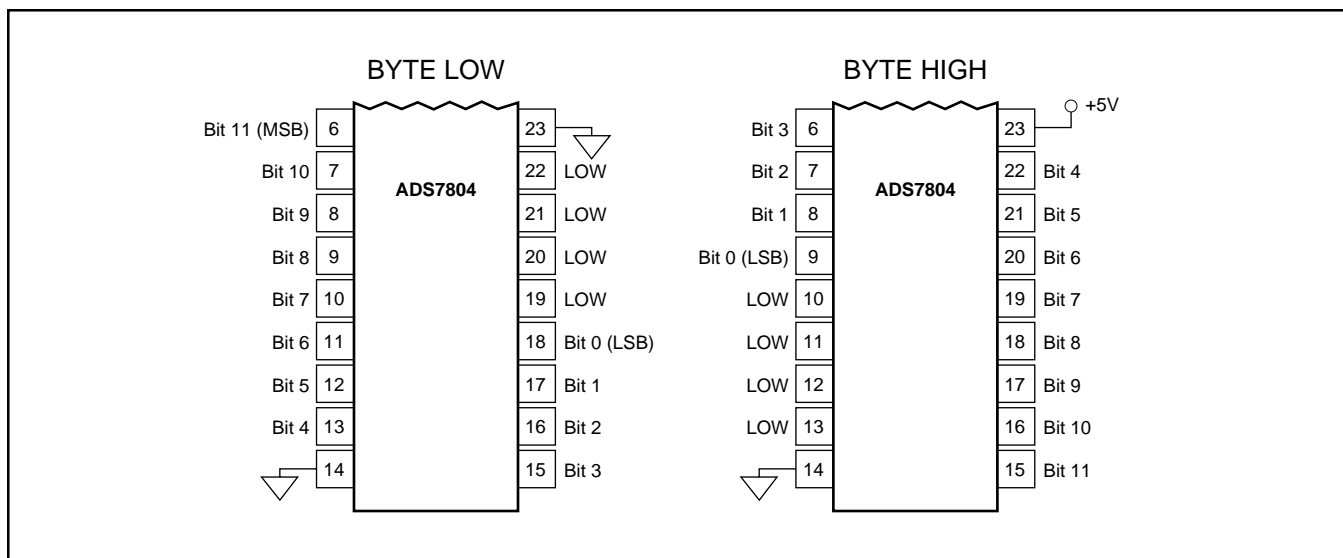

FIGURE 2. Bit Locations Relative to State of BYTE (pin 23).
NOTE: (1) See Figures 2 and 3 for constraints on data valid from conversion "n-1".
The ADS7804 outputs full or byte-reading parallel data in Binary Two's Complement data output format. The parallel output will be active when $\overline{R/\overline{C}}$ (pin 24) is HIGH and \overline{CS} (pin 25) is LOW. Any other combination of \overline{CS} and $\overline{R/\overline{C}}$ will tri-state the parallel output. Valid conversion data can be read in a full parallel, 12-bit word or two 8-bit bytes on pins 6-13 and pins 15-22. BYTE (pin 23) can be toggled to read both bytes within one conversion cycle. Refer to Table III for ideal output codes and Figure 2 for bit locations relative to the state of BYTE.